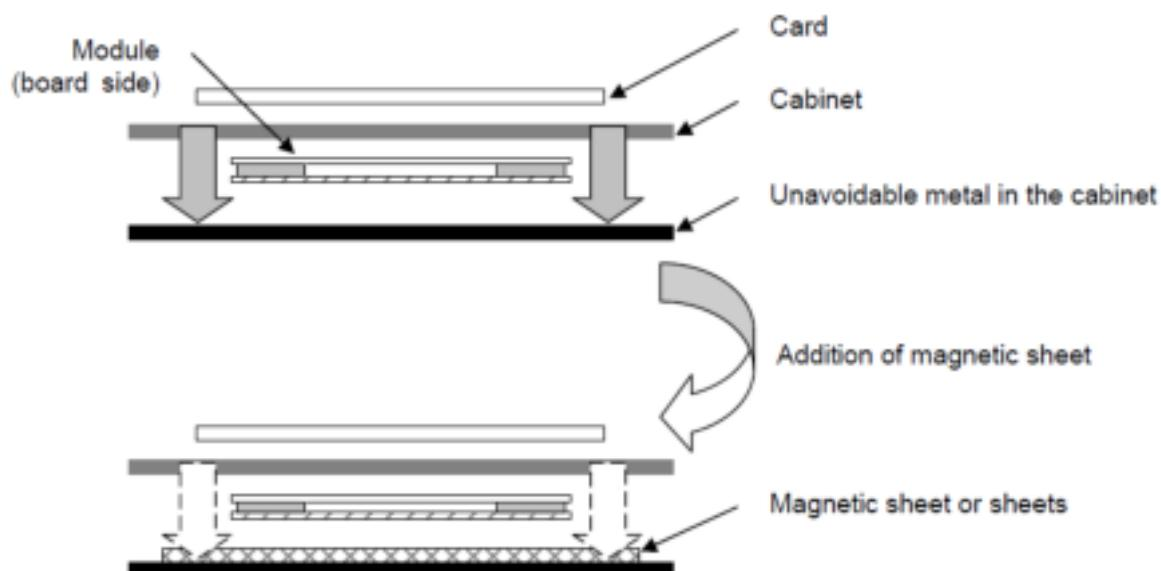

Figure A.2: Reducing the effects of metal
- If no performance improvement is achieved by the previous instructions, attempt to add at least one magnetic sheet (70 mm x 60 mm or larger) to the metal surface that faces the card, as shown in Figure A.2, and keep the module at least 3 mm ($s > 3$) away from any metal plate.